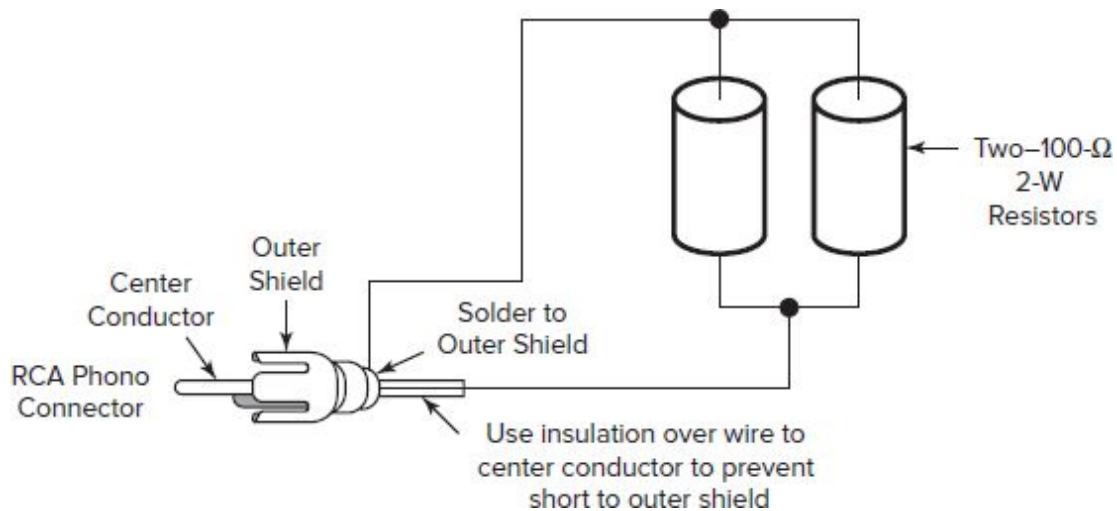

Fig. 8-3 Building a 50- Ω dummy load for testing the transmitter.
2. Build the dummy load as illustrated in Fig. 8-3.